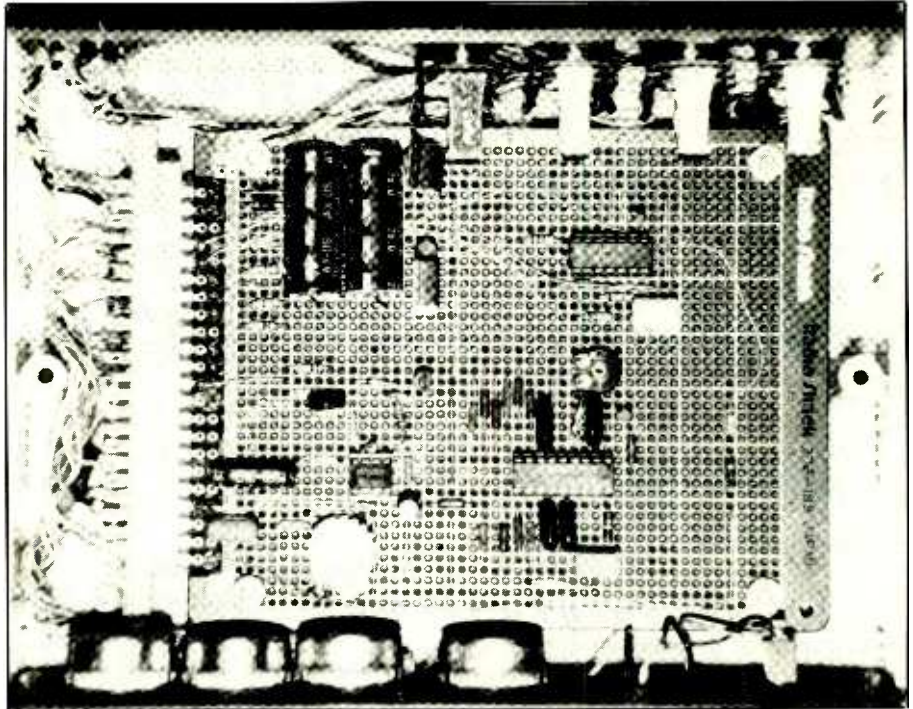

Fig. 5. Interior view of author's prototype. Circuit was assembled on perforated board, but pc board of your own design can be substituted, if desired.
As you can see in Fig. 5, the original prototype of the project was assembled and wired on a plug-in perforated board sold by Radio Shack (Cat. No. 276-188). This board has a
You can use this Emergency Electronic Ignition in either of two ways. One is to use it in conjunction with the coil already in your car, the other is to use a separate coil, as illustrated in (A) and (B), respectively, in Fig. 5. Automobiles that use the General
Fig. 5. Connection schemes for using the Emergency Electronic Ignition module with (A) the vehicle's existing coil, (B) a separate coil, and (C) in a GM HEI electronic ignition system.
If you use a separate coil with the Emergency Electronic Ignition, this coil connects to the project as shown in Fig. 5(B). Then the high-voltage lead that goes from the distributor to the coil must be disconnected from the existing coil and be attached to the new coil. This connection arrangement eliminates everything in the ignition system except the distributor.
For GM HEI systems, the connections are different, as illustrated in Fig. 5(C). To make the connections, you must first disconnect the plug that goes from the base of the distributor (the part that contains the electronic ignition module) to the distributor cap. This plug has three wires that are insulated red, black and white or yellow. The red-insulated wire is the B + conductor of the coil, the black-insulated wire is the conductor that goes to the ground or frame of the coil, and the white- or yellow-insulated wire is the C- or contact part of the coil.
As per Fig. 5(C), you connect the COIL + (+12V lead) from the Emergency Electronic Ignition module to the red-insulated B+ lead and the COIL - wire to the white- or yellow-insulated C - lead in the GM HEI system. The project's GROUND wire does not require connection, but you can connect it to any convenient electrical chassis ground in the vehicle if